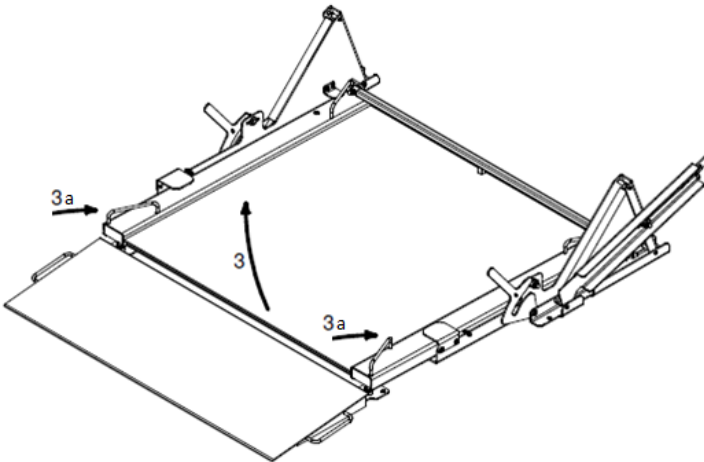

Fig.19.
3. Use the handle (3a) to lift the platform up in accordance with direction 3 (Figure 19) until the lock (7) is snapped (Figure 20).